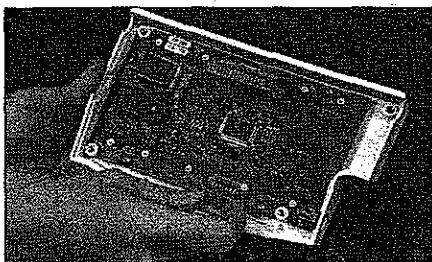

Figure 18
2. Disconnect the membrane switch mylar ribbon cable from the display PCB (see Figure 18).